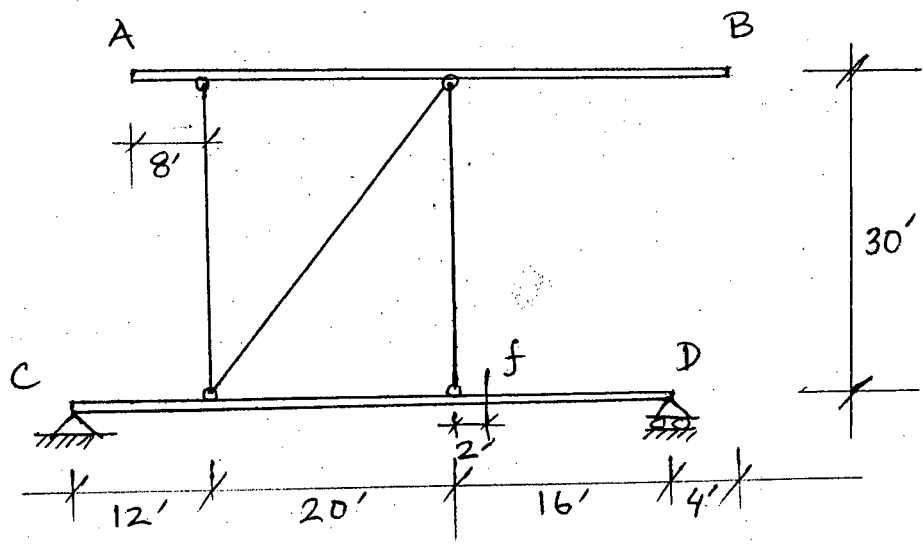

Fig. 2
2. Draw the influence lines for sheer and moment at 'f' in the beam CD of the frame shown in Fig. 2 as a unit load moves from A to B. (21)